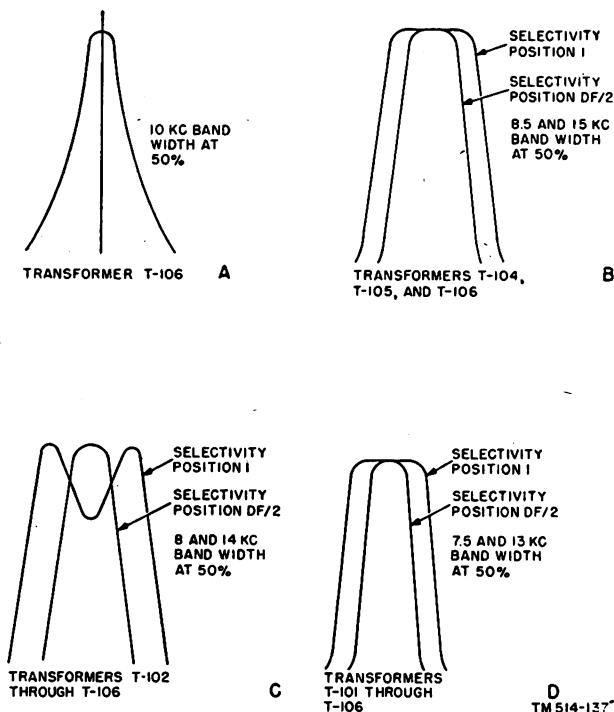

Figure 116. Alinement data.
(audio) amplifier tube V-107 and the chassis (fig. 50). Then adjust the top and bottom tuning slugs of the fourth i-f transformer, T-106, until a single-peaked trace is obtained on the screen of the oscilloscope. This curve should have a bandwidth of approximately 10 kc at two times down (A, fig. 116). The gain of the third i-f (audio) amplifier stage is approximately 100.
Note. In order to produce the resonant curve on the screen of the oscilloscope (A, fig. 116), it is necessary to adjust the sweep control on the signal generator to a width greater than 20 kc.
- (1) The position of the SELECTIVITY switch will affect the bandpass curve, because the switch changes the inductance of transformers T-104 and T-105. Therefore, the adjustments should be made first in position 1 of the switch and checked for a symmetrical curve in position 1 (B, fig. 116).
- (2) In position 1 of the switch, the response of transformers T-104 and T-105 are double-peaked but the combination of transformers T-104, T-105, and T-106 (as indicated by the curve on the oscilloscope) will be broad and flat-topped (B, fig. 116).
- (3) In position D/F-2 of the SELECTIVITY switch, the curve will be somewhat sharper and more rounded (B, fig. 116).
- (4) The bandwidth should be about 8.5 kc in position D/F-2 and 15 kc in position 1.
- (5) The gain of the second i-f amplifier stage alone is about 3.5 and 6 for positions 1 and D/F-2 of the SELECTIVITY switch, respectively. The gain of the combination of the second and third i-f amplifier stages as checked
c. **FIRST I-F AMPLIFIER ALINEMENT.** Remove the lead from the control grid of the second i-f amplifier tube and connect it to the control grid (pin 4) of the first i-f amplifier tube, V-105. The stages under test are now the first, second, and third i-f amplifiers (transformers T-102 through T-106), but only transformers T-102 and T-103 are to be adjusted. Each of these transformers has a top and bottom tuning slug. The inductances of transformers T-102 and T-103 are changed with the position of the SELECTIVITY switch in exactly the same manner as for transformers T-104 and T-105. Also, the bandpass for the two sets of transformers is the same. Therefore, the combination of transformers T-102 through T-106 should produce a curve on the oscilloscope which is double-peaked in position 1 of the switch (C, fig. 116) and flat-topped in position D/F-2 of the switch (C, fig. 116). Adjustments of transformers T-102 and T-103 should be made first for position 1 of the switch and checked for symmetrical response in position 1. The bandwidth will be somewhat sharper than for the curve obtained in *b* above. The gain of the first stage alone is approximately 5 and 8 for positions 1 and D/F-2, respectively, and the gain of the combination under test is approximately 1,750 and 4,800.
d. **FIRST I-F INPUT CIRCUIT ALINEMENT.** Remove the lead of the signal generator from the control grid of the first i-f amplifier tube and connect it to pin 8 of the mixer tube, V-104. Transformer T-101, like transformer T-106, is sharply peaked and is not affected by the setting of the SELECTIVITY switch. This input circuit will transform the double-peaked curve of transformers T-102 through T-106 (*c* above) to a flat-topped curve (D, fig. 116). The gain of the mixer stage alone is approximately 2, and the over-all gain of the mixer and i-f stages is approximately 3,500 and 9,600 for positions 1 and D/F-2, respectively, of the SELECTIVITY switch. The following procedure is used for alinement:
- (1) Set the crystal phasing capacitor, C-164, at approximately one-half of its maximum capacity. (This is approximately its final setting, and changing